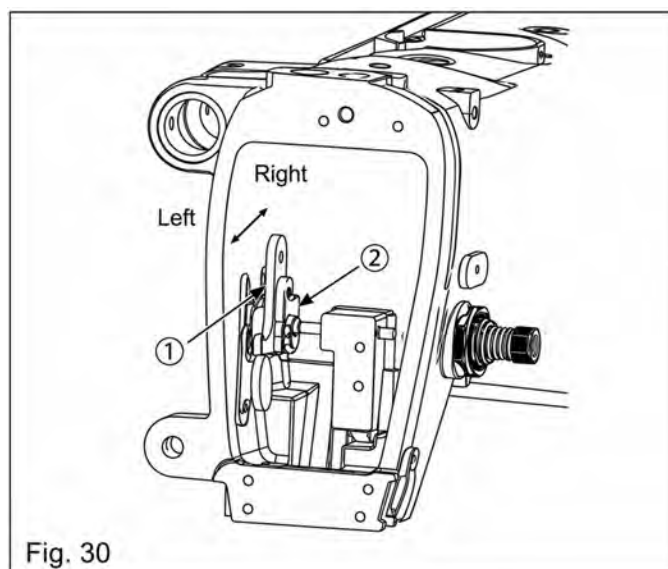

Fig. 30
24. Adjust the tension release (Fig.30)